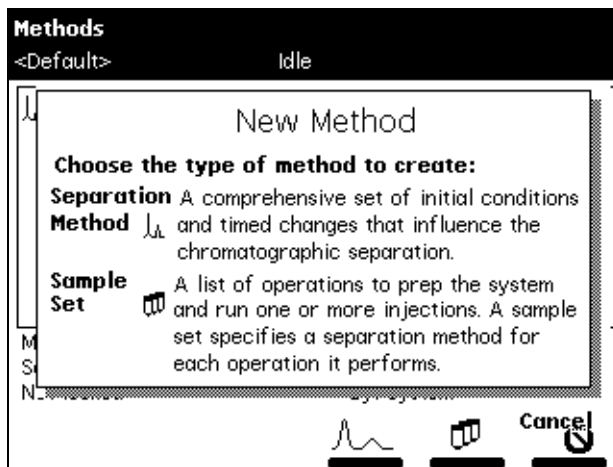

Figure 3-2 New Method Dialog Box
2. Press the **New** screen key. The New Method dialog box appears (Figure 3-2).